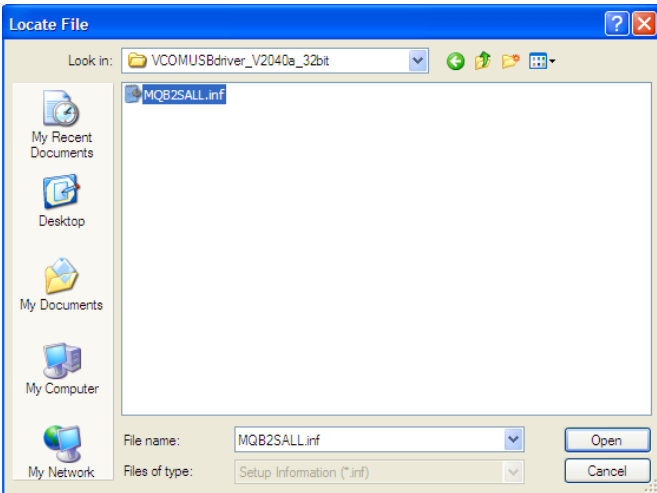

Figure 7. Open Hardware Driver
8. Find *MQB2SALL.inf* in *VCOMUSBdriver_V2040a_32bit* or *VCOMUSBdriver_V2040a_64bit* according to your PC OS, select it and click *Open* (See Figure 7).